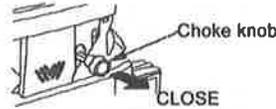

Fig.10
2. Push the choke lever to “CLOSE”. (Fig.10) .